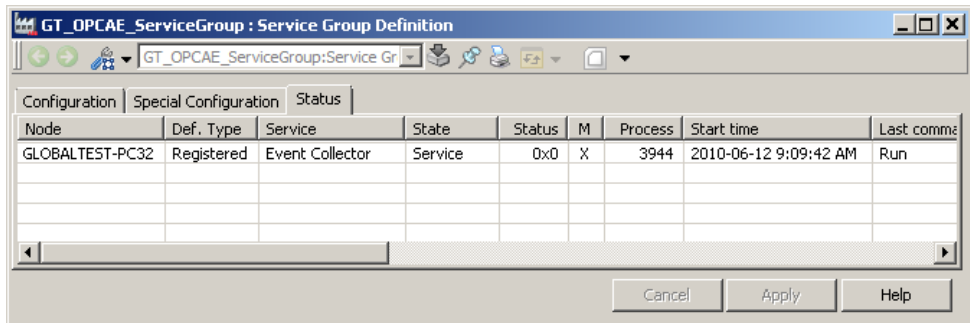

Figure 27. Verify the Connection
- b. Verify that the state is *Service*, as shown in Figure 27.